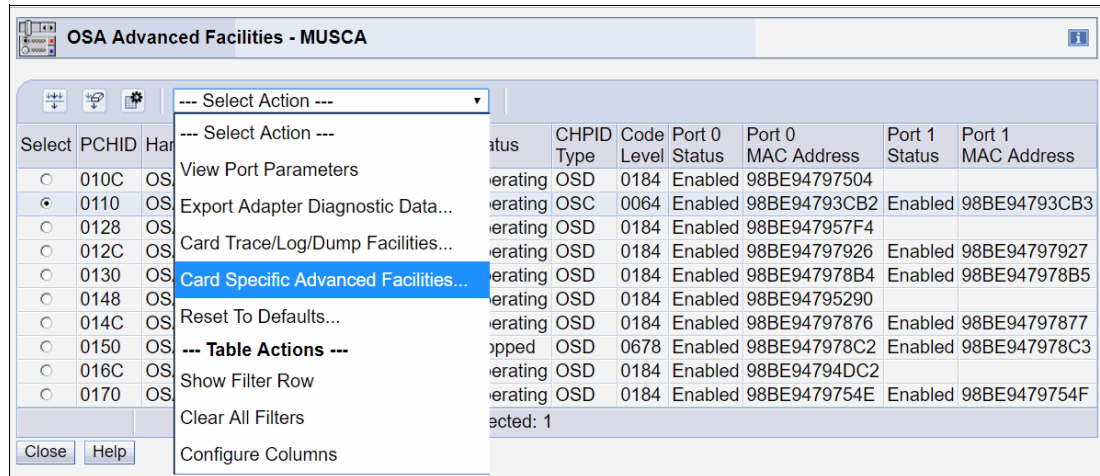

Figure 7-1 Card Specific Advanced facilities
2. Select the OSC PCHID to be used for the new OSA-ICC configuration, and select **Card specific advanced facilities** (see Figure 7-1).